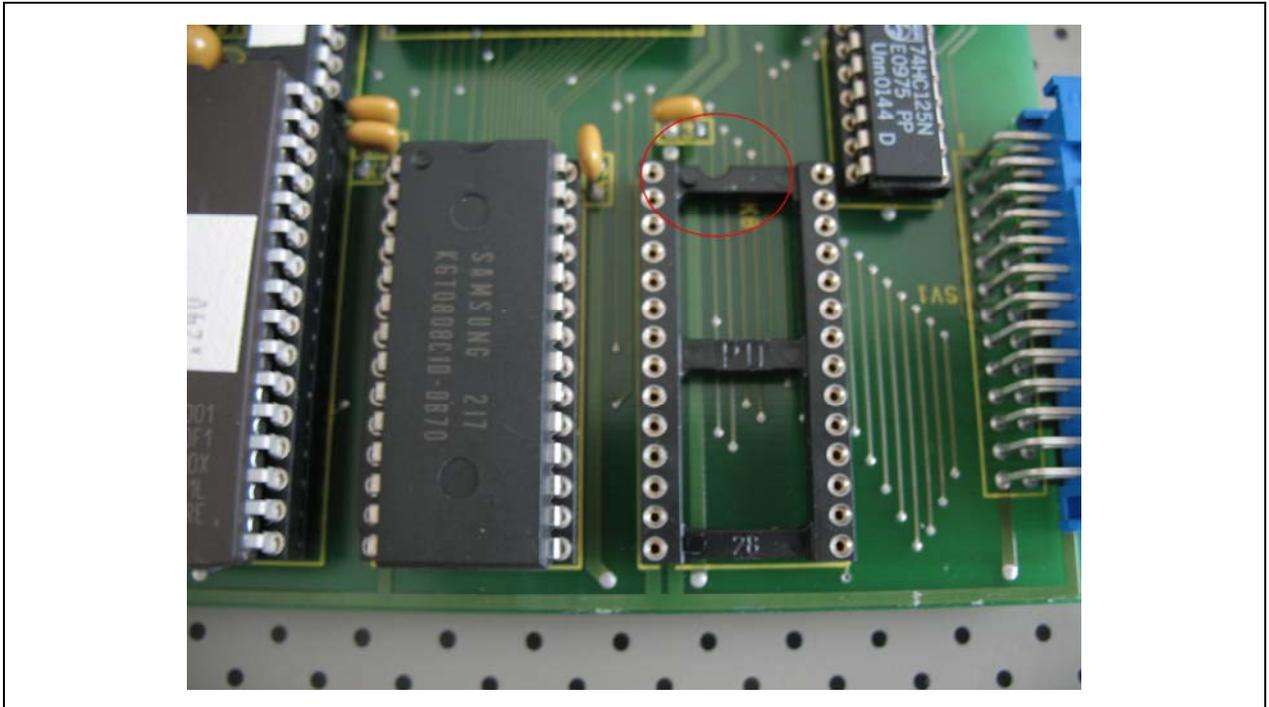
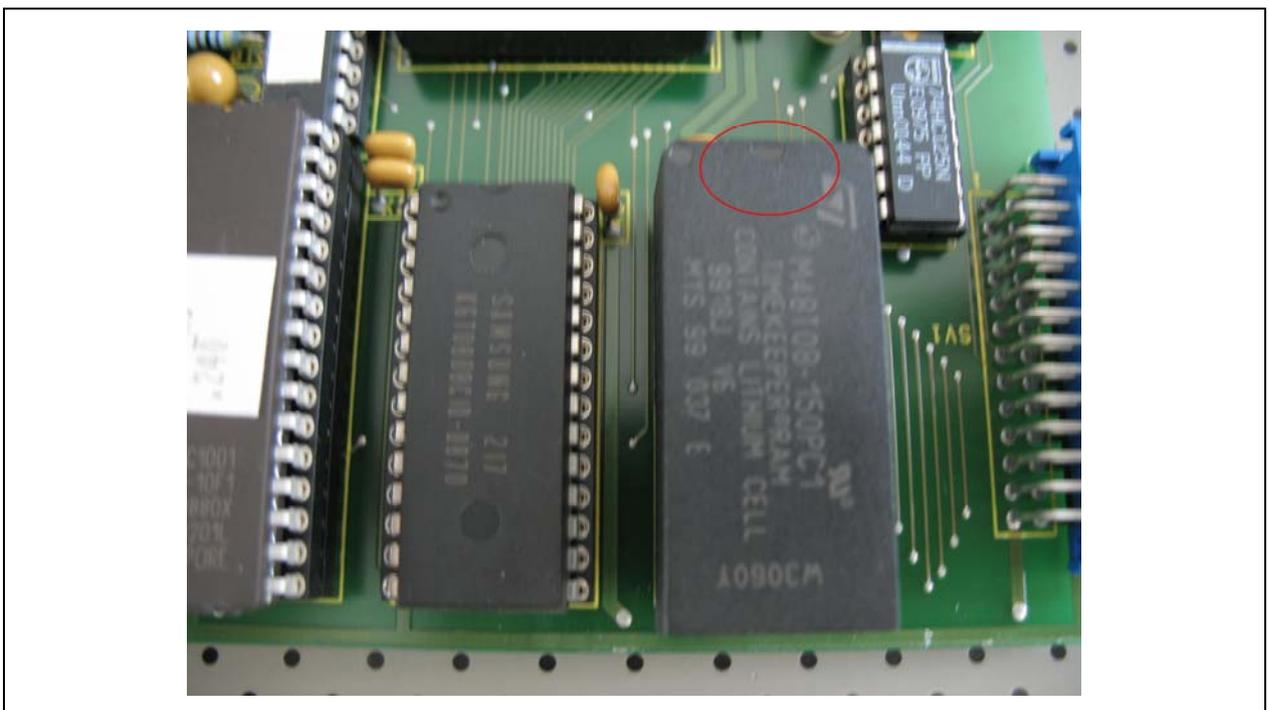

Figure 15: Mark on the socket
Figure 16: Mark on the chip
- a) Take the new, copied chip out of the programmer and insert it into the socket on the printed circuit board. The mark of the chip must match with the mark of the socket on the board (see Figure 15 and Figure 16). Be careful not to damage the pins of the chip when inserting it into the socket.